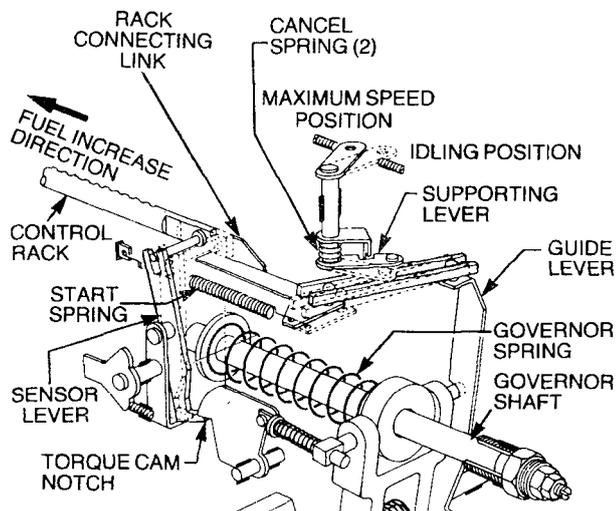

Figure 35 Engine Start Position
73. As the guide lever ball joint is held stationary, the floating lever pivots on this ball joint, causing the control rack to move in the fuel increase direction (refer to Figure 35). By depressing the accelerator pedal fully, the control lever moves to the maximum speed position causing the elbow on the control lever shaft to move away from the supporting lever. The cancel spring (2) then forces the supporting lever to move toward the elbow causing the floating lever to pivot on the stationary guide lever ball joint and move the control rack to the starting position. In this position, the sensor lever engages with the notch of the torque cam, which controls the engine's starting fuel injection quantity. The governor and the injection pump are now in the engine start position.